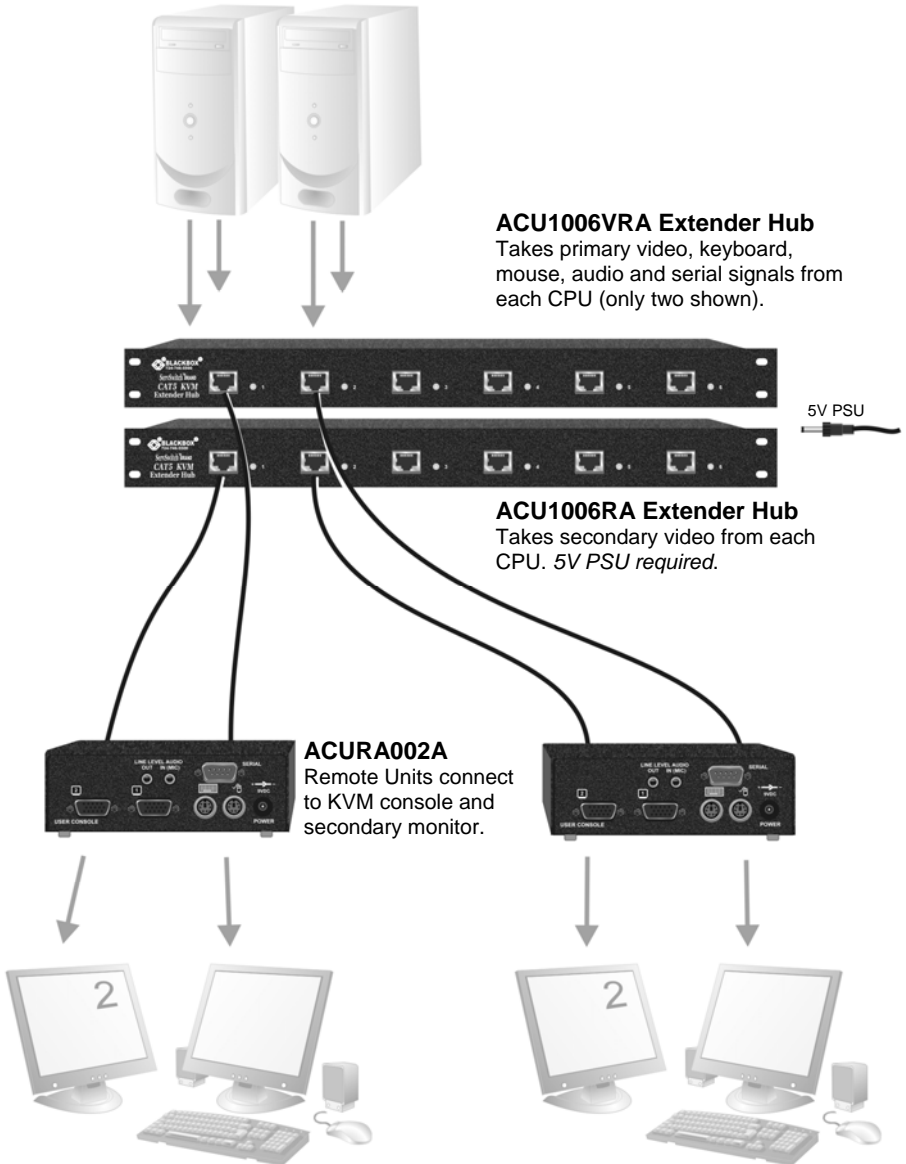

Figure 9 Dual-monitor consoles with serial and audio extension
- Dual-monitor consoles with serial and audio extension (Figure 9).